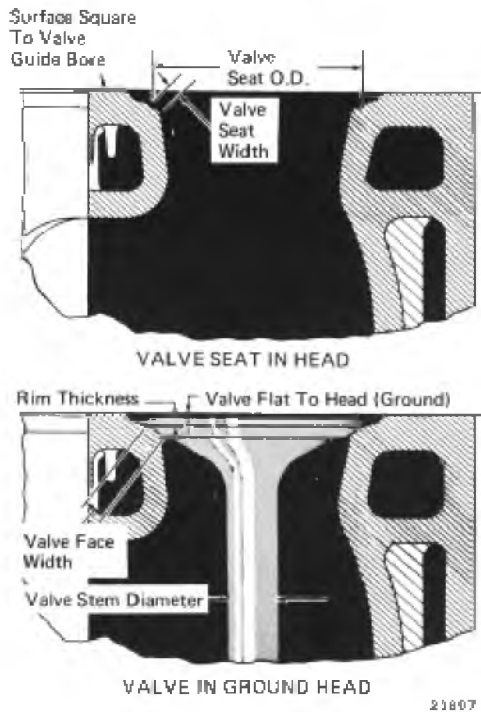

Fig. 2-15 - Valve Measurement Points
9. Check valve seat for proper dimensions, Fig. 2-15. If seat O.D. is too small, regrind seat with 30° grinder until O.D. is proper dimension. Then grind seat I.D. with 65° grinder until proper seat width is obtained.
12. With the head positioned with the fireface up, install new valve in each position and measure the vertical distance from the fireface of the head to the rim of the exhaust valve, Fig. 2-15.